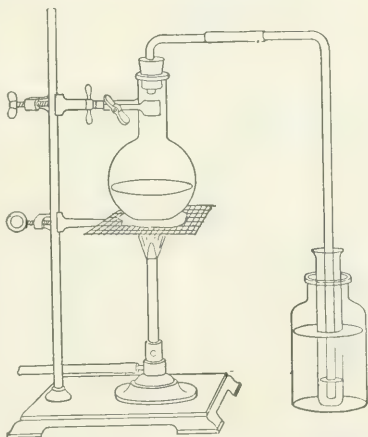

Fig. 28. Simple apparatus for distilling water.
a. Dissolve a spoonful of common salt in about 50 cc. of water. Put the solution in a flask which is arranged as shown in figure 28. A few chips of marble in the flask will prevent "bumping." The steam from the boiling water in the flask is condensed by conducting it into the test tube which is kept cold by the water in the bottle. Boil gently until 5 cc. has distilled over. Taste the distilled water. *Is it free from salt? Explain.*